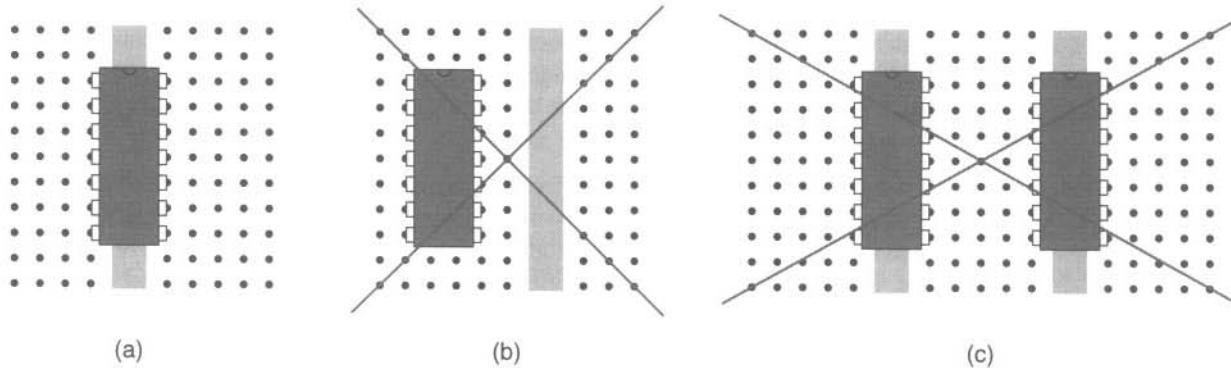

Fig. 3
- Plug in chips so that they straddle the troughs on the proto board. In this way, each pin is connected to a different hole set, as shown in Fig. 3(a). Fig. 3(b) shows a common mistake (for a six-hole set proto board). Why is this practice wrong? You can answer this question by considering how the holes are connected together internally [Fig. 1(b)]. You can also see why the practice shown in Fig. 3(c) for a two-trough board is most likely inappropriate when working with more than one chip.
- Be sure that you know the correct underlying connection pattern of your proto board and that you have not made any mistakes in this respect. Beware of breaks in some power supply or ground buses on some boards [see Fig. 1(b)]. Beware of mistakes such as those shown in Figs. 3(b) and 3(c).